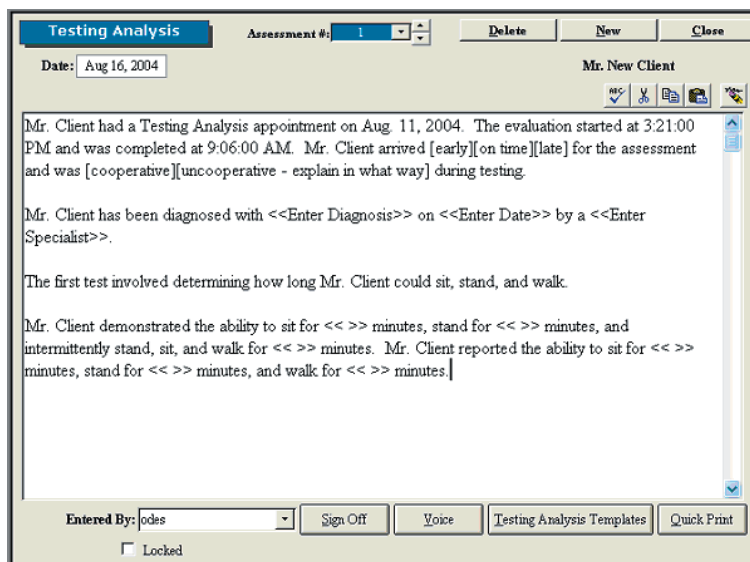

Figure 4-11. Updated Custom Template Code
Step 6. While in the home template screen, click within the white text box to place the cursor and paste in the code. You can paste by either pressing **CTRL-V** on your keyboard, clicking on the **Paste** icon within the home template screen, or pulling down the Edit menu in the taskbar and selecting **Paste** (Figure 4-11).